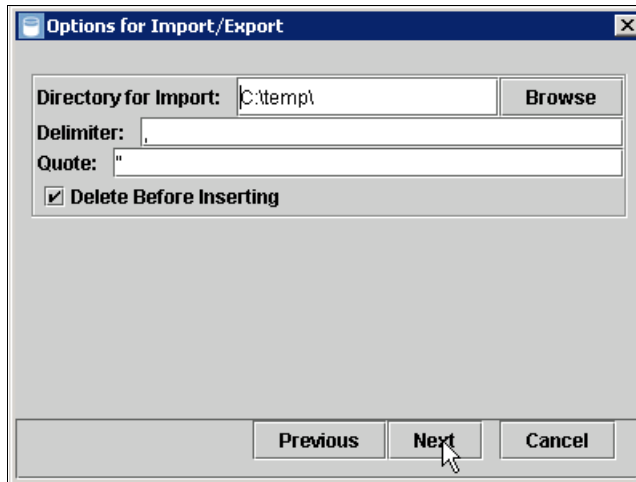

Figure 6-88 Enter the Import fields
4. Enter the Options for Import fields (see Figure 6-88 on page 308):